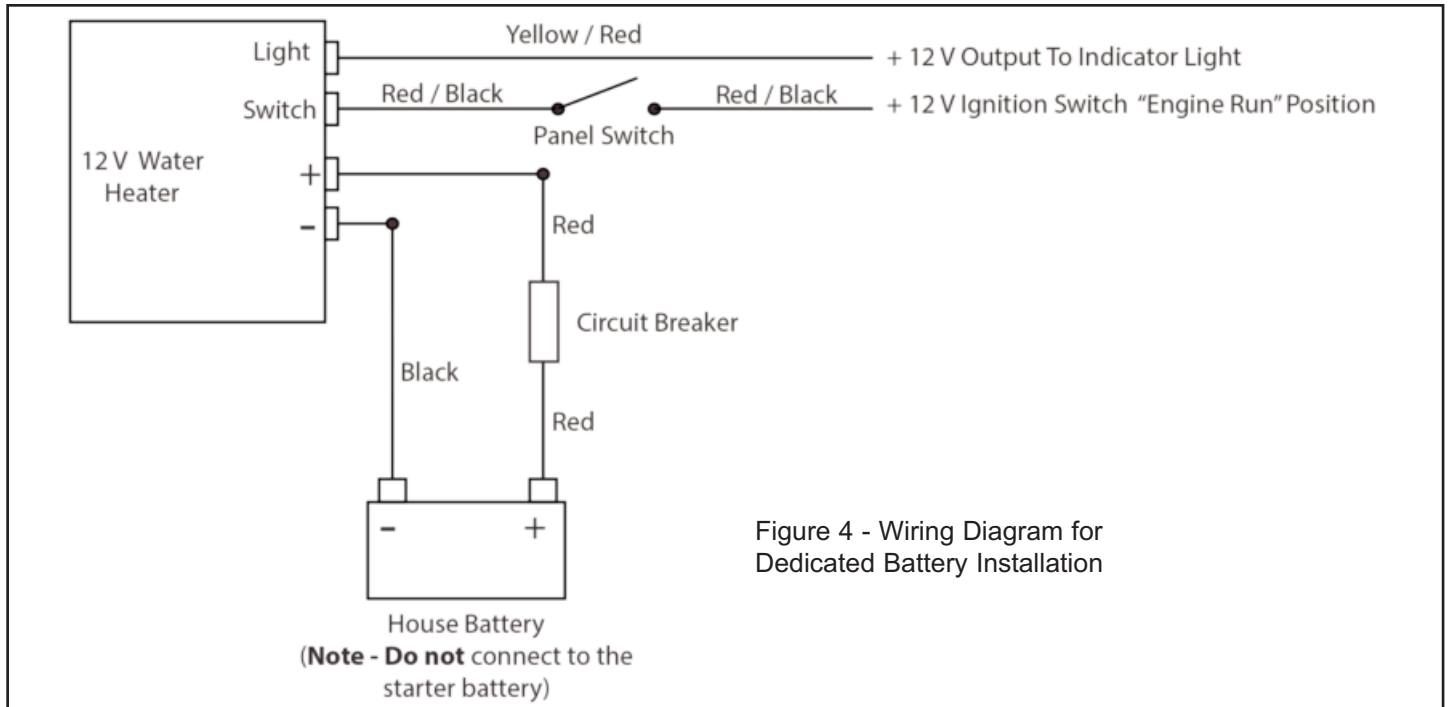

Figure 4 - Wiring Diagram for Dedicated Battery Installation
**NOTE:** Electrical wiring **must** comply with the wiring diagram (Figure 4). **The switch must be connected to the 12 V ignition switch in the engine run position to ensure the heater is only operational when the engine is running.**